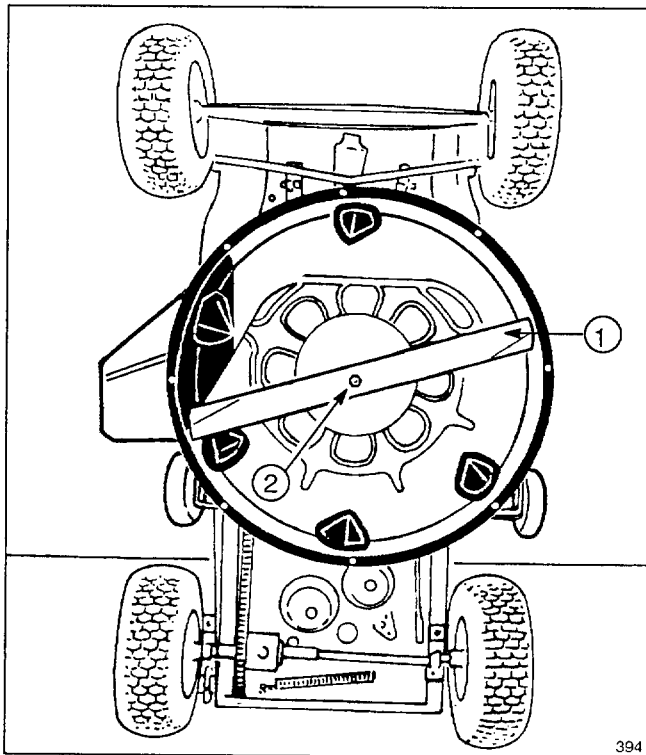

Figure 17
6. Grasp end of blade using a rag or thickly padded glove; then remove blade bolt, washer and blade (Fig. 17).
9. In sequence, reinstall blade, washer and blade bolt (Fig. 17). Tighten blade bolt to 45-60 ft-lb (61-81 N·m).
6. Remove grass clippings and dirt that are sticking to inside of housing (Fig. 17) by spraying with a garden hose. Scrape out grass and dirt that water does not remove from housing; then spray housing again.